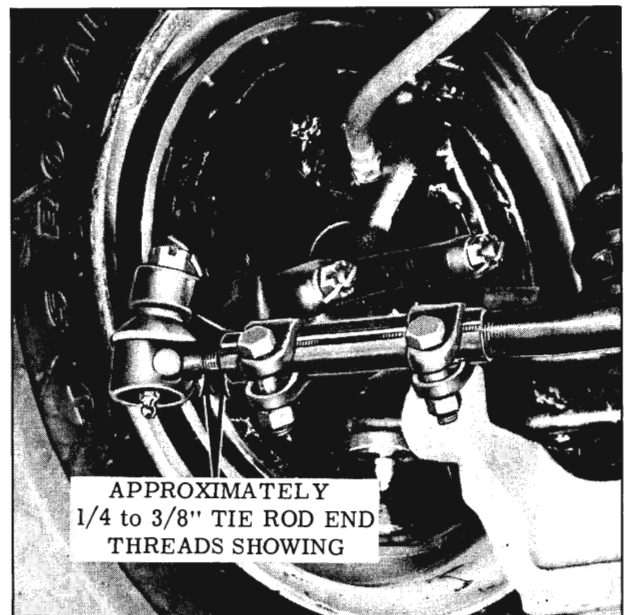

Fig. 4-202 Tie Rod End Installation
1. Thread new tie rod end into the tie rod sleeve until approximately 1/4" to 3/8" of threads show at each end of tie rod clamp sleeve as shown in Fig. 4-202.
1. Thread new tie rod into the tie rod adjuster sleeve until 1/4" to 3/8" of threads show at each end of the sleeve as shown in Fig. 4-202.